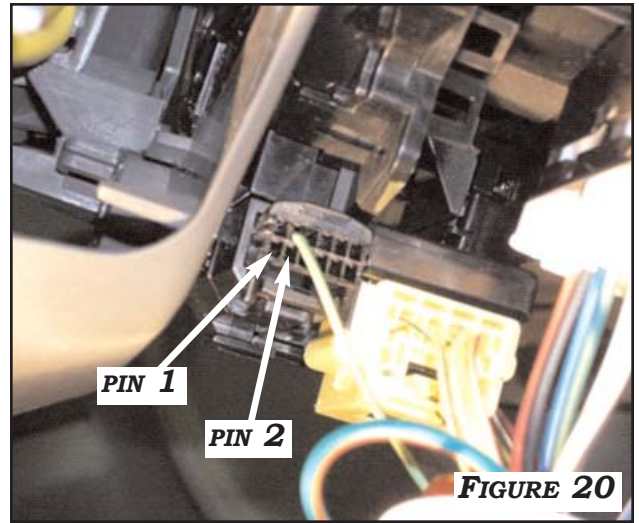

FIGURE 20
1. LOCATE CONNECTOR **E6** OF CLOCKSPRING BELOW RIGHT HAND SIDE STEERING COLUMN. REFER TO **FIGURE 20**
2. WITH IGNITION SWITCH ON, PLACE POSITIVE LEAD OF METER ON **PIN 1** (DC).